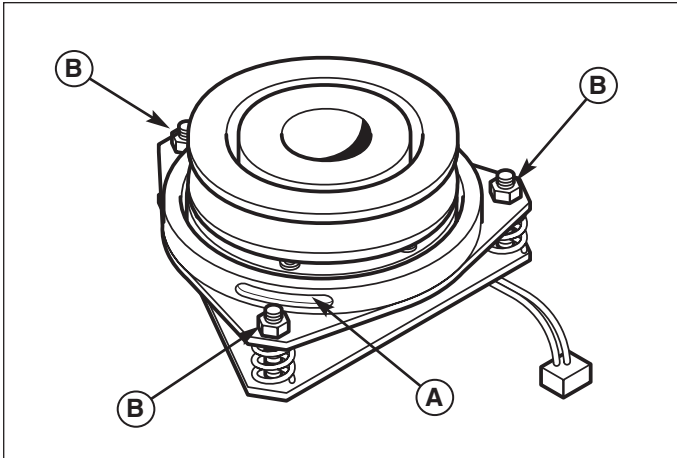

Figure 12. PTO Clutch Adjustment
2. See Figure 12. Note the position of the 3 adjustment windows (A) in the side of the brake plate and the nylock adjustment nuts (B).
4. Alternately tighten the adjustment nuts (B, Figure 12) until the rotor face and armature face just contacts the gauge.